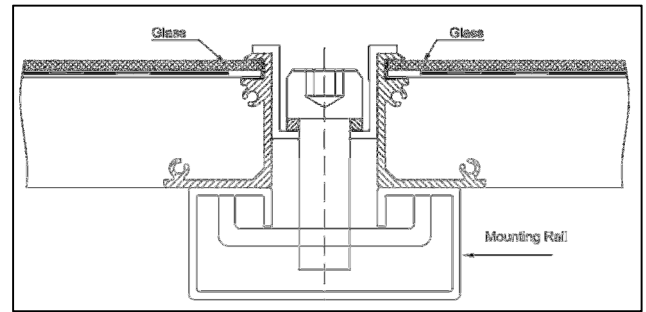

Figure 2: Clamp Mounting Example Diagram
- Clamps can be used to achieve mounting to a support structure. A minimum of four points of contact at the location (+/- 3 in. or 76.2 mm) of pre-drilled mounting holes should be used. See Figure 2 for typical clamp assembly.